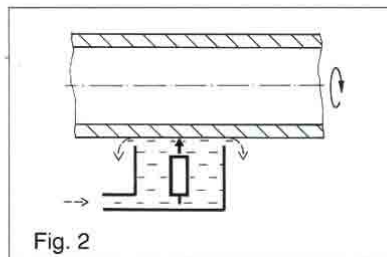
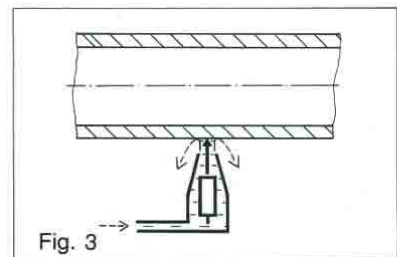

Fig. 2
Fig. 3
*Frequently, large test objects cannot be completely immersed due to their size. In such cases, special holders are used which enable coupling of the immersion probe, e.g. from below via a water filled chamber (bubbler technique, see fig. 2) or via a freely flowing water jet (squirtter technique, see fig. 3).*